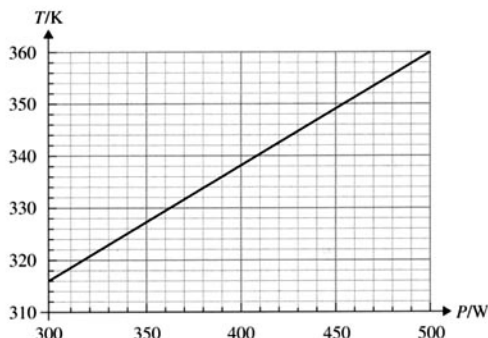

Figure 1.20 For question 20.
- 20 The graph in Figure 1.20 shows the variation with incident solar power P of the temperature of a solar panel used to heat water when thermal energy is extracted from the water at a rate of 320 W. The area of the panel is 2.0 m^2 and the intensity of the solar radiation incident on the panel is 400 W m^{-2} . Calculate